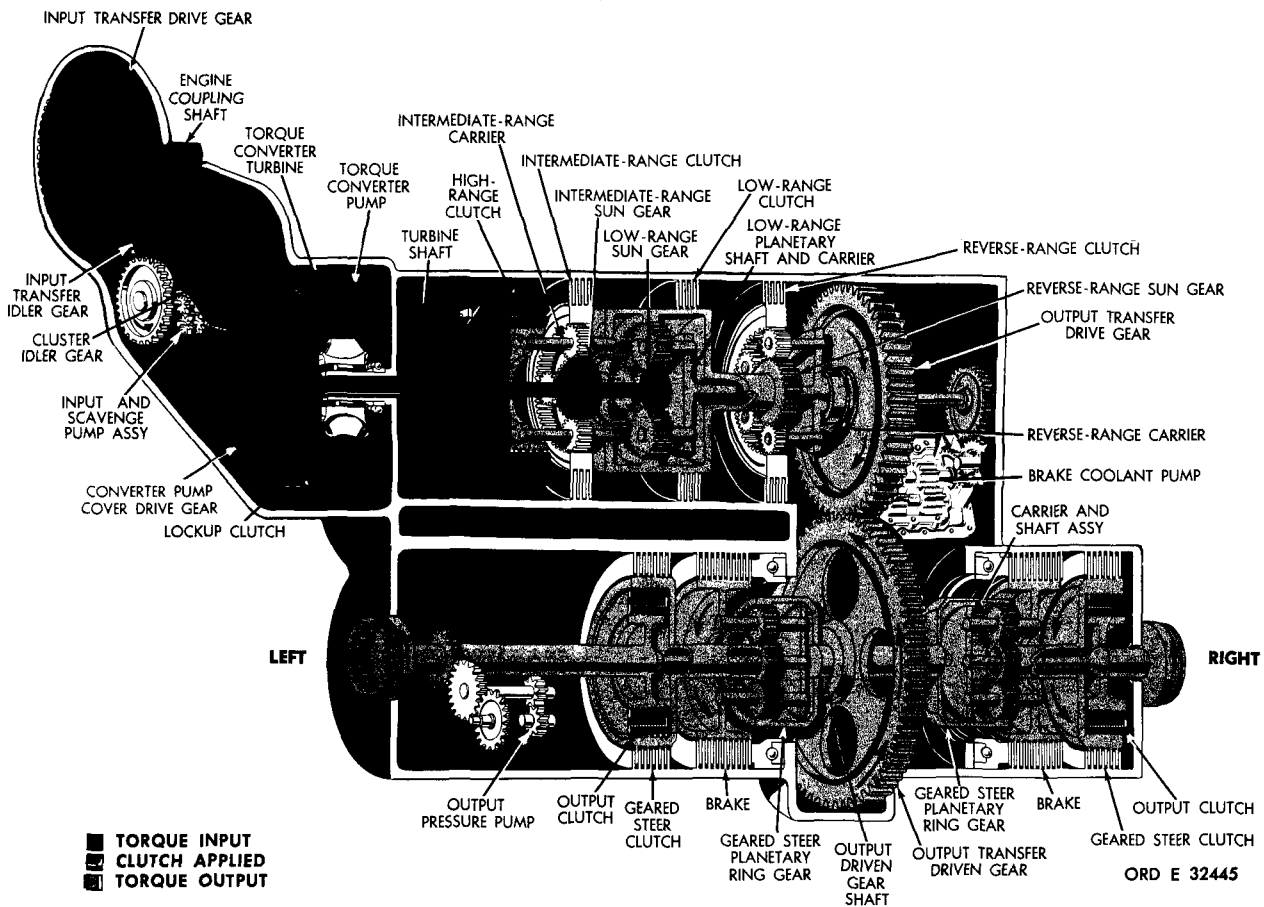

Figure 26. Fourth-gear torque path, lockup operation
**50. TORQUE PATH - FOURTH GEAR, LOCKUP OPERATION (fig. 26)**